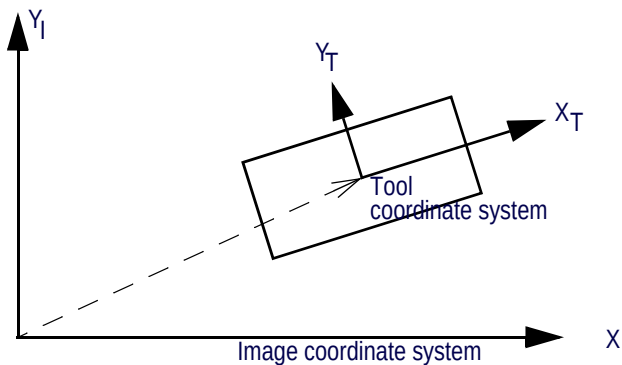

Figure 232 Image-Based Uncalibrated Mode: Relationship between Tool and Image Coordinate Systems
- **Positioning coordinate system:** In the Image-based Uncalibrated mode, the tool is positioned with respect to the Image coordinate system as shown in Figure 232.